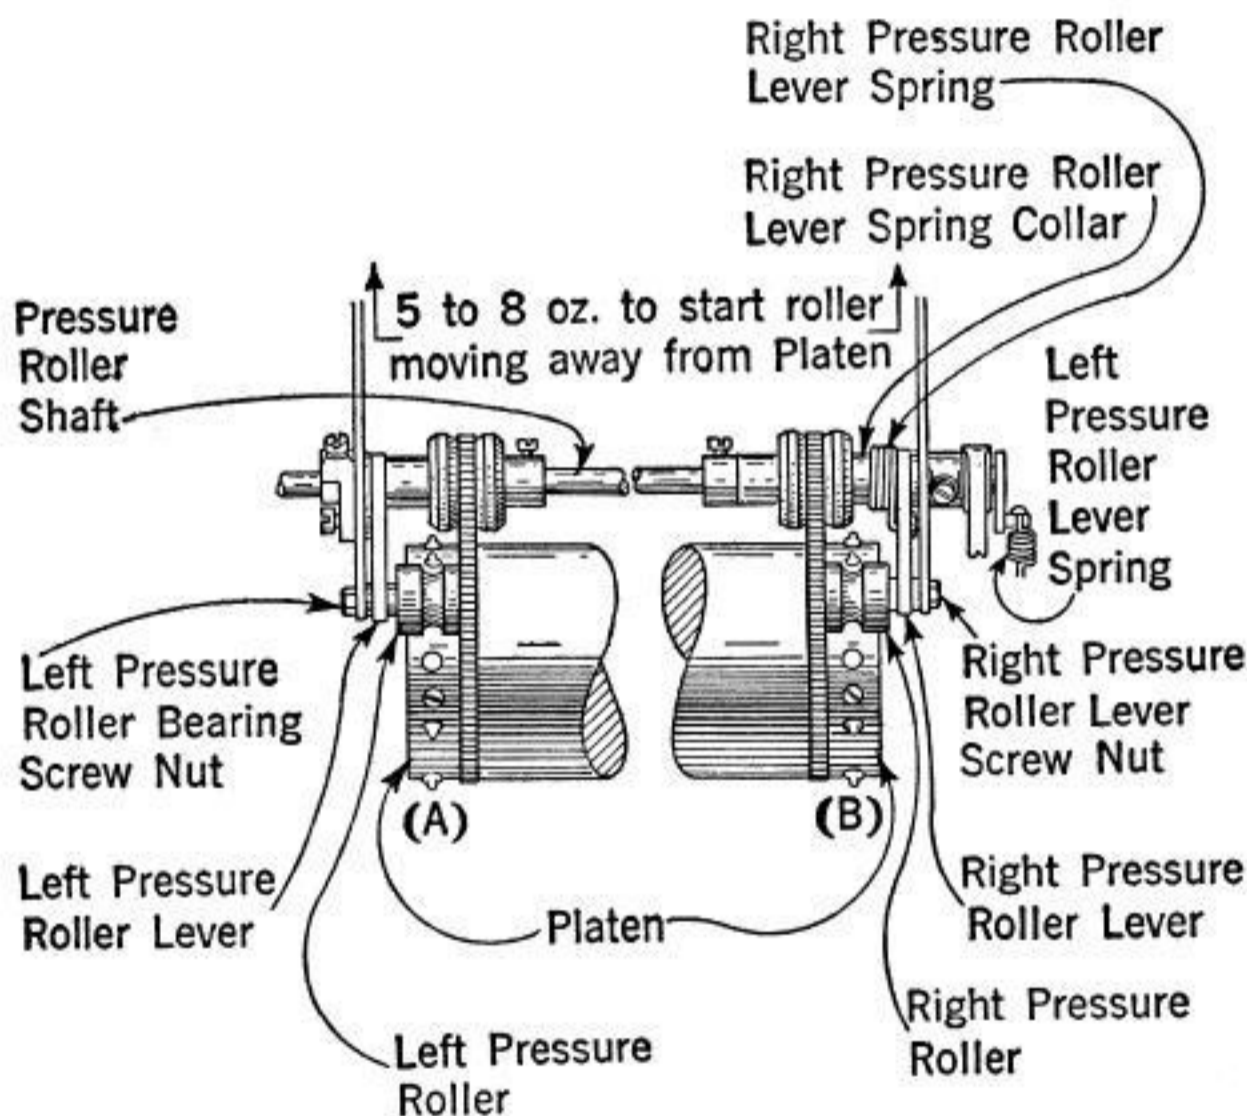

Fig. 3.
2.04 **Left and right pressure-roller-lever springs** should have tensions of Min 5 oz (140 gm), Max 8 oz (225 gm) measured at the left and right pressure bearing-screw nuts respectively, as in Fig. 3, when their respective pressure rollers start to move from platen. **Fig. 3**
2.06 **Wire paper stripper** (an improved part superseding paper carrier belts of Fig. 2 and Fig. 3): There should be some clearance, not more than .020", between the front pro-⁷